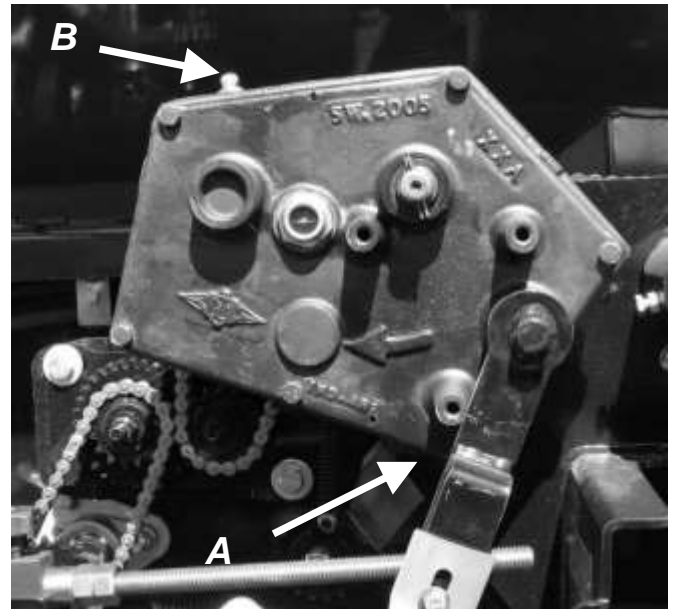

Figure 25
- ☞ The variable transmission [Figure 25] which drives the metering shaft use Trans-Hydraulic fluid (automatic transmission fluid). Volume: 1.75 liters.
To do an oil change: remove the drain plug [figure 25, **A**] at the bottom of the casing. To ease the drainage, remove the fill plug. [Figure 25, **B**]. Install the drain plug back then fill the casing with automatic transmission fluid (1.75 liters). Check into the clear window on the side of the gearbox, to verify the oil level everyday. This level is design for the oil at cold temperature. Fill it up if needed.